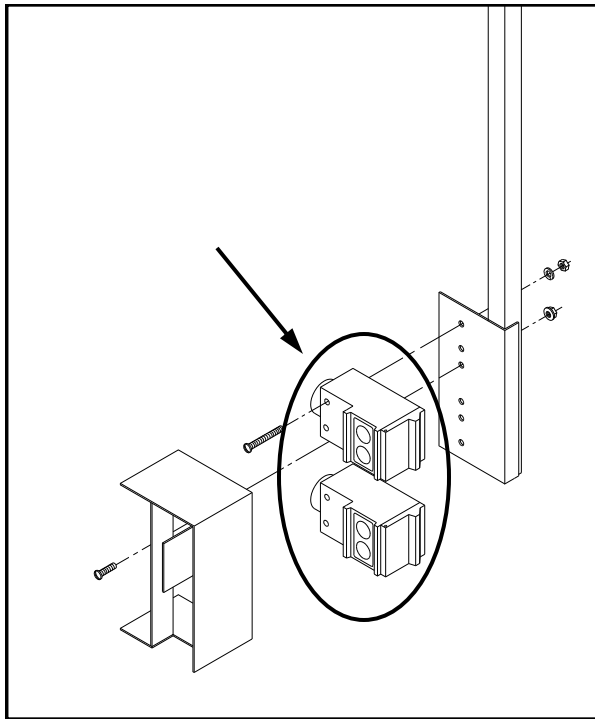
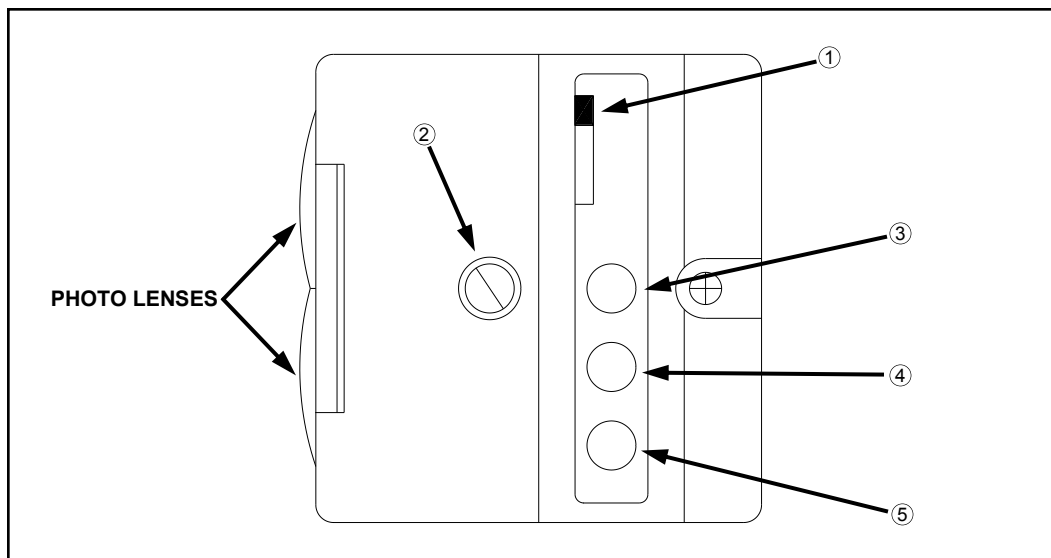

FIG 3.10
FIG 3.11
The upper and lower LS photolights (fig. 3.10) have L.E.D. lights (fig. 3.11) that indicate their operational status.
LT/DK SWITCH – Light/Dark switch on photolight (fig. 3.11, item 1) changes the activated condition of green L.E.D. (see below) from *ON* (“LT”) to *OFF* (“DK”). Switch does not affect the functional operation of the light, only how it is displayed. Switch should be set to “LT”.
SENSITIVITY ADJUSTMENT SCREW – Sensitivity adjustment screw (fig. 3.11, item 2) should always be set to maximum.
YELLOW L.E.D. – Yellow L.E.D. (fig. 3.11, item 3) indicates power on.
GREEN L.E.D. – Green L.E.D. (fig. 3.11, item 4) indicates output energized (sending a signal to Tassel-tron[®] box, opening the raise or lower stack valve).
RED L.E.D. – Red L.E.D. (fig. 3.11, item 5) indicates photolight is receiving reflected signal.